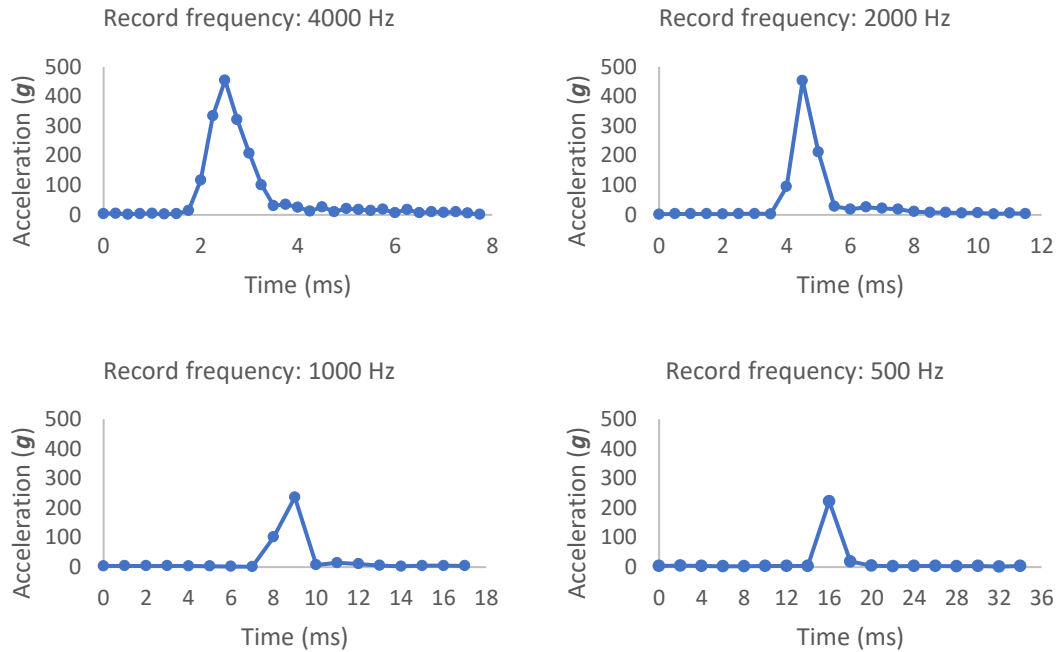

Figure 3 Recorded impacts at different record frequencies.
3. Choose the record frequency. The maximum record frequency determines the number of measurements taken per second. A higher frequency allows for more detailed recording of impacts (see Figure 3). However, higher record frequencies require more memory for storage. The recommended value is 4000 Hz.